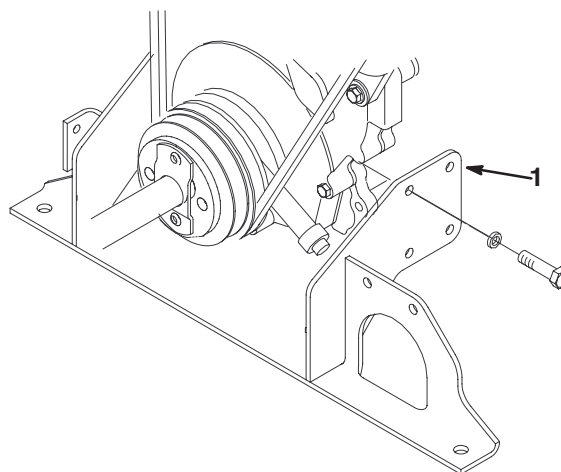

Figure 3
11. Remove the (4) bolts and washers securing the engine mount to the side of the engine (Fig. 3).